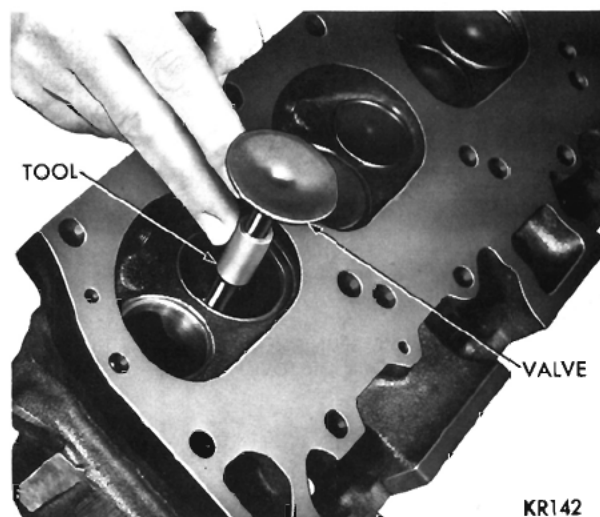

Fig. 73—Installing Tool C-3973 (Typical)
(1) Clean the valves thoroughly, and discard burned, warped and cracked valves.
(2) Measure the valve stems for wear. The new intake valve stem diameter should measure .372 to .373 inch and exhaust valve stem diameter should measure .371 to .372 inch. If the wear exceeds .002 inch, replace the valve.
(3) Remove the carbon and varnish deposits from the inside of the valve guides with cleaner, Tool C-756.
(4) Measure the valve stem guide clearance as follows: Install sleeve, Tool C-3973 over valve stem to hold valve at working height in head, as shown in Fig. 73.